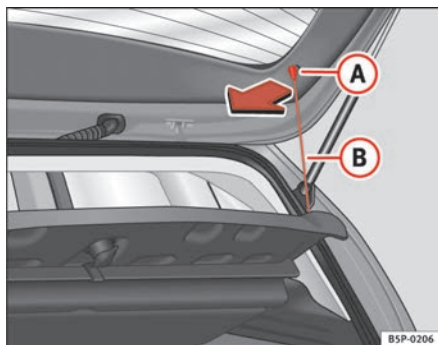

Fig. 123 Storage shelf
- Unhook the loops ⇒ fig. 123 **B** from housings **A**